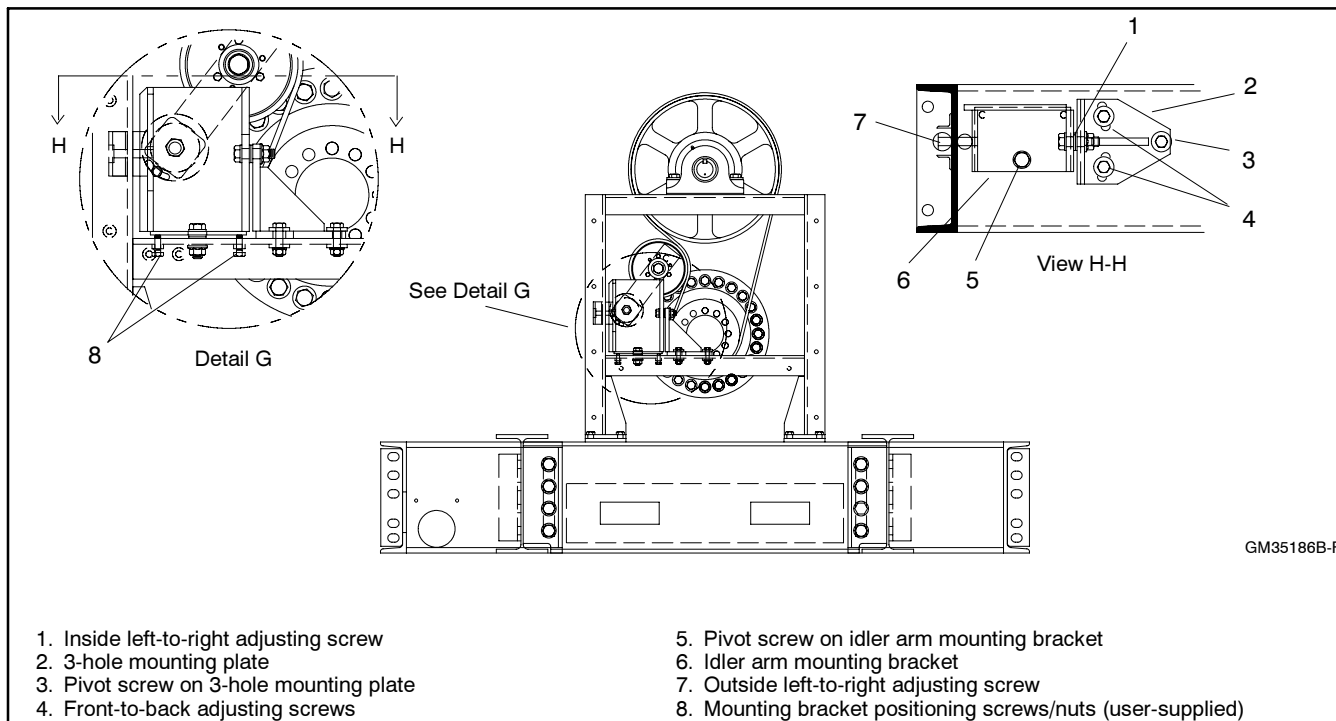

Figure 3 Idler Pulley Arm Bracket and Plate Adjustment
2.3.1 Adjust the idler pulley assembly using the adjusting screws shown in Figure 3.
2.3.10 Temporarily install (user-supplied) two screws M10-1.5 x 30, grade 8.8 (M933-10030-60) with nuts M10-1.5 as shown in Figure 3. Use these two screws to adjust the vertical parallel alignment of the idler arm mounting bracket. Use the nuts to lock to screw positions.